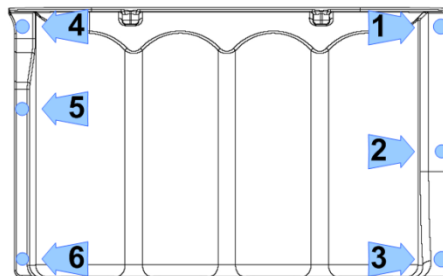

Figure 6 – Capacitor Cover Installation
10. Place the Capacitor Cover over the capacitors and secure it with the long screw (M5x20) and flat washer in the position number three (3), shown in the Figure 6 (Capacitor Cover Installation). Use the five (5) remaining screws and flat washers to secure the cover. Fasten according to the sequences. Perform the sequence twice.